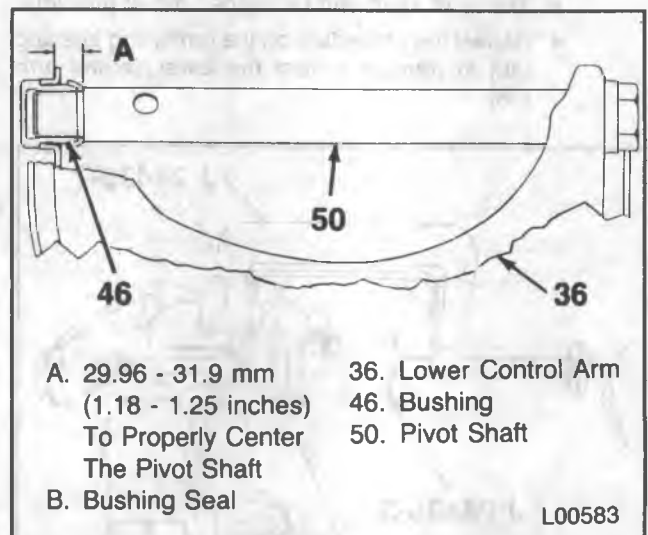

Figure 32 — Centering the Lower Control Arm Shaft (R-P20/2500, 30/3500 and G30/3500 Models)
3. Bushings (46).
- Center the shaft in the lower control arm (figure 32).
- Bushings (46) to 379 N·m (280 ft. lbs.).
- Pivot shaft (50) for free rotation.
4. Grease fitting (12).
5. Lower control arm (36) to the frame crossmember.
- SLOWLY raise the floor jack until the lower control arm (36) is in position.